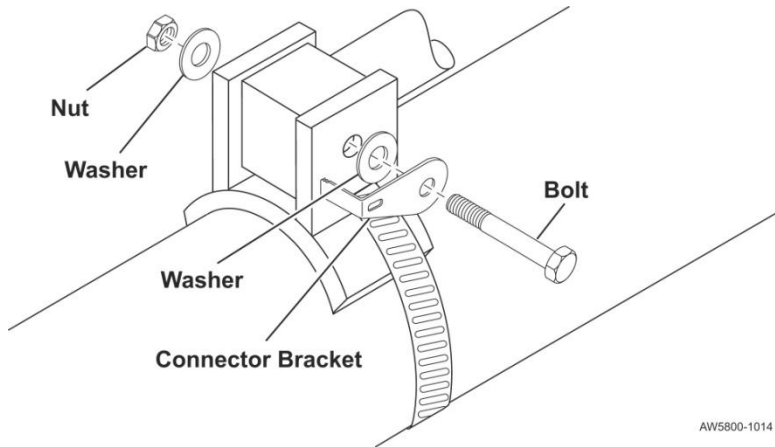

Figure 13. Inserting Connector Assembly Bracket Tab
- H. Place the connector assembly bracket tab (P/N 110-0080-000) on the second bolt followed by a washer. Ensure the tongue and tab extends around the end of the sensor. See Figure 13.